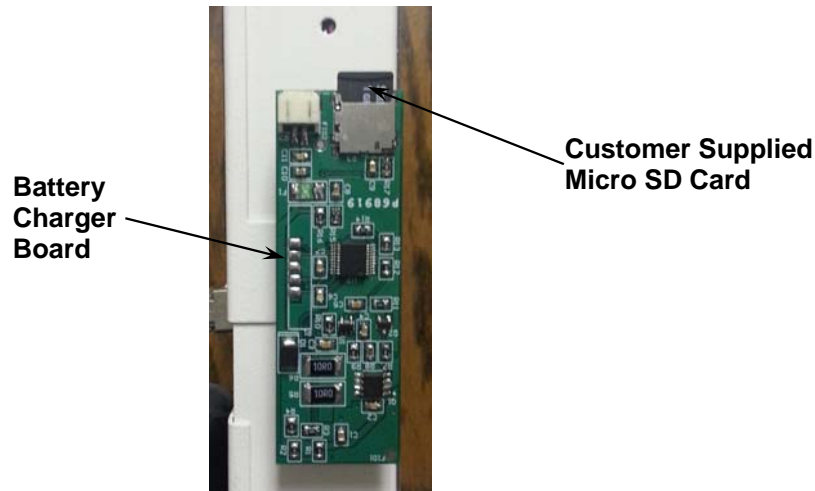

Figure No. 9
**NOTE:** The Micro SD card is inserted into the battery charger board under the right end cap (as viewed from the MV2 back). See Figure No. 9.